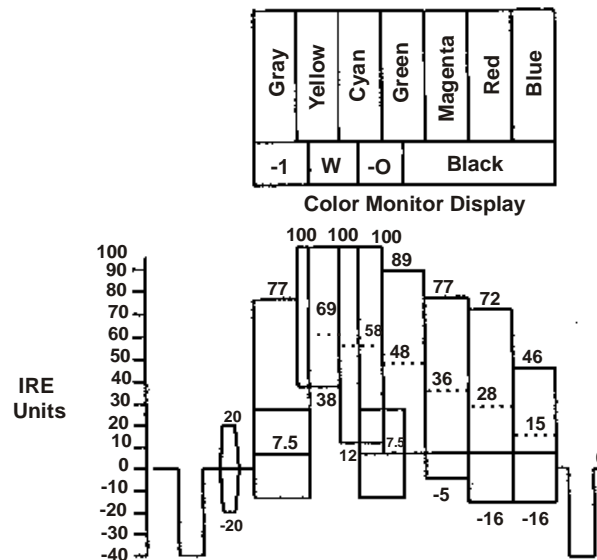

Figure H-8. EIA Color Bars
g. Figure H-8 diagrams the relationship between the color monitor display and the waveform monitor display of a standard color bars signal. The figure also details the luminance level of each color with a dotted line; for example, blue has a luminance level of 15 IRE, while green has a luminance level of 48 IRE.